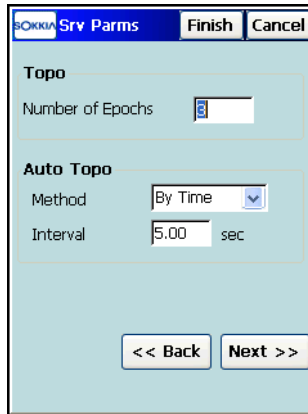

Figure 4-61. Survey Params (PP Kinematic and PP DGPS)
- On the *Srv Parm*s screen, set the *Number of Epochs* for the Topo survey (see Figure 4-61 on page 4-48).